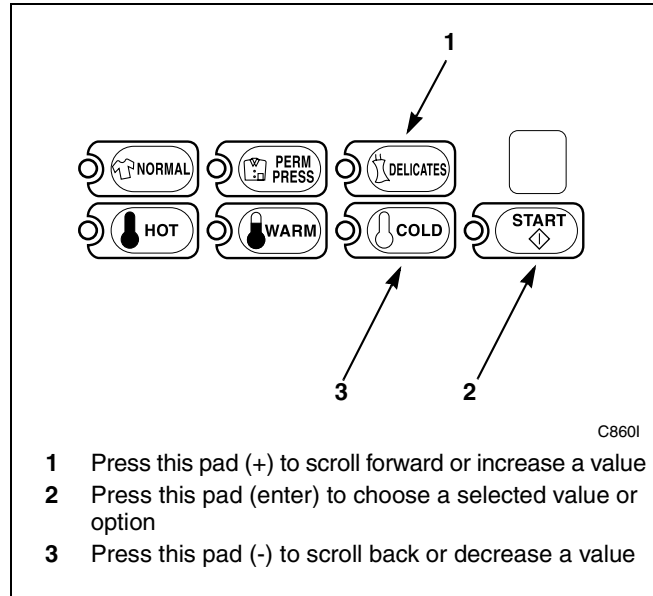

Figure 134
5. Press the DELICATES (+) or the COLD (-) keypad to increase or decrease the current number of minutes displayed in the VFD to the desired number of minutes. Refer to *Figure 134*.